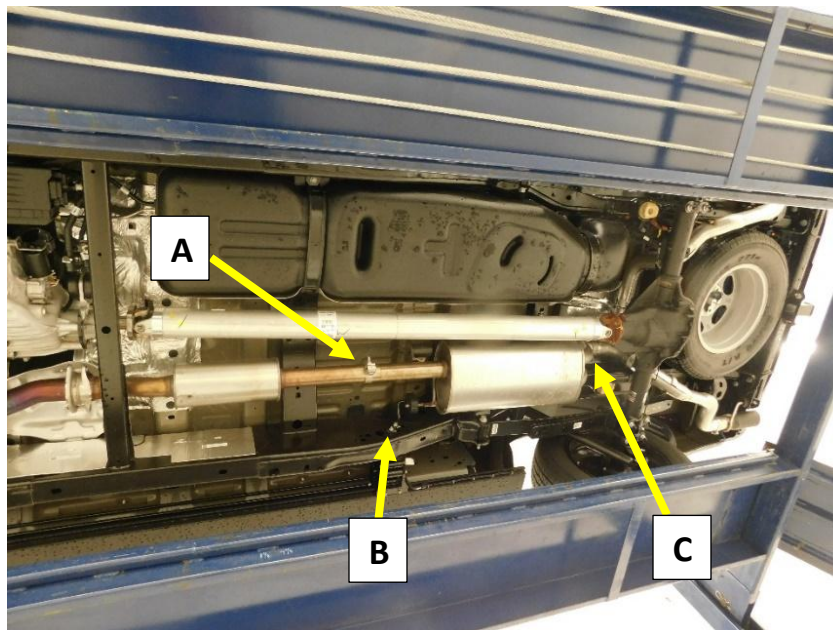

Figure.4
9. Loosen the clamp at the slip joint between the muffler and the resonator **(A)**. **Fig.4**
11. Remove the (x2) bolts at the muffler hanger on the frame rail **(B)**. **Fig.4**
12. Remove the bolt from the muffler hanger over the muffler and remove the hanger from the cross brace **(C)**. **Fig.4**
13. Remove the muffler from the vehicle by sliding the muffler rearward off the resonator pipe. **Fig.4**